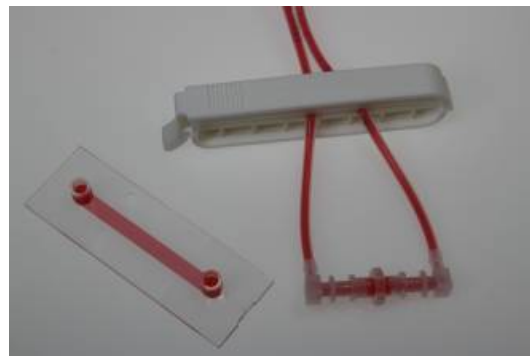

Figure 31: Clamp the tubing before opening the Female Luer Coupler of the Perfusion Set.
1. Check the tubing for air bubbles and use the hose clip to clamp both tubing arms of the Perfusion Set tubes directly beneath the valve (Figure 31).